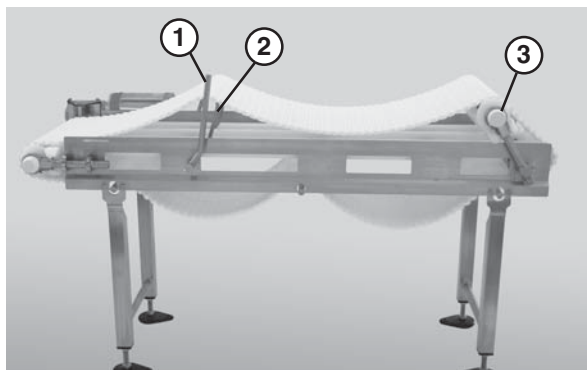

Figure 39
2. Use the lifter handle (**Figure 39, item 1**) to raise the lifters (**Figure 39, item 2**) if applicable, and raise the tip up tail (**Figure 39, item 3**).